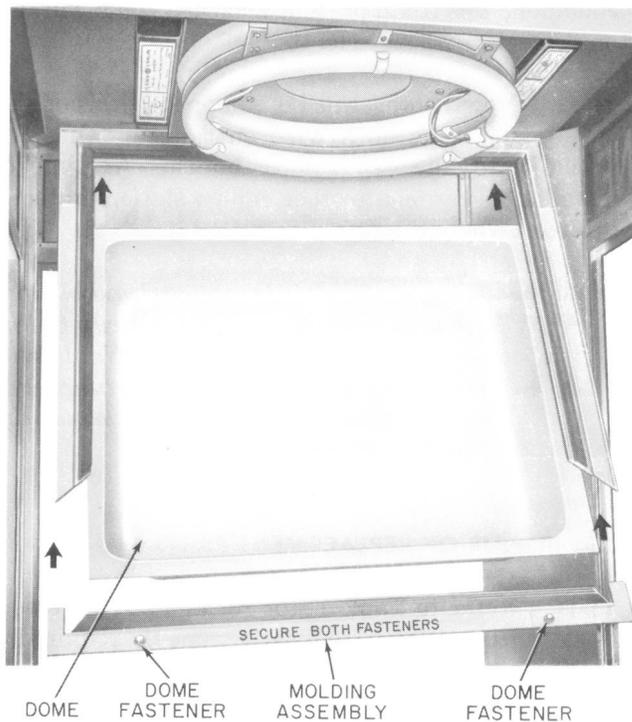

Fig. 6—Installation of Dome
- (1) Unlock dome fasteners and lower dome.
- (2) Remove machine screws and moulding assembly.
- (3) Remove defective dome and insert replacement as shown in Fig. 6.
- (4) Replace and secure moulding assembly.
- (5) **Raise dome and secure in position by locking dome fasteners.**